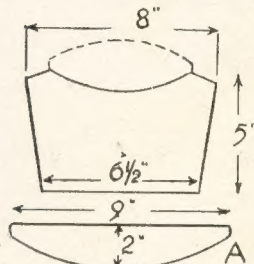

Fig. 1—End shapes
The ends are shown at Fig. 1. These can be easily set out direct to the wood, without drawing a pattern beforehand. Cut a rectangle 5in. by 8in. for the front end, trim the ends to slope inwards, cut off the top corners, and saw the remainder of the top edge to a concave curve. The rear end is cut  $1\frac{1}{2}$ in. wider ( $6\frac{1}{2}$ in.) and is of similar shape to the other with the exception that the top edge is sawn to a convex curve, as shown by the dotted lines.
shown at (A) in Fig. 1. The bottom curve should be a smooth one, and can be struck with an improvised compass if a better tool is not available. The usual makeshift of a nail and length of string, with a pencil tied to the string, will serve all right for a job of this kind.